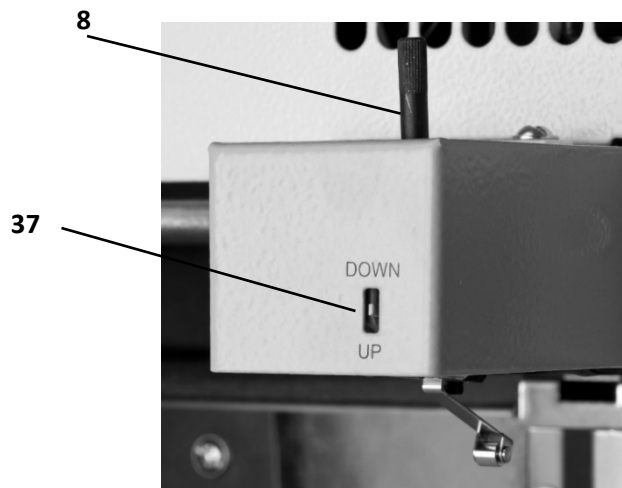

Fig. 9: Setting the Table Upper Position
Use the table position regulation screw (8) to set the table upper position. With default settings, the gauge (37) is approximately in the centre of the hole (Fig. 9). The table upper position may need to be changed when paper wave needs to be eliminated. Also, change the setting when you change paper thickness. For thicker paper the table upper position will be closer to the feeding head. Consequently, use the regulation screw to move the gauge in the direction of the UP position.